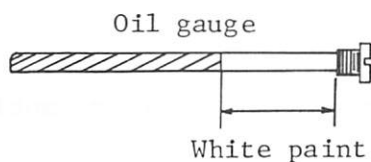

Fig. 9.11
- (1) Loosen and remove the oil gauge found on the top of machine bed.
- (2) When the oil gauge is oiled up to the lower end of white paint, the oil tank is filled with sufficient amount of oil (Fig. 9.11).